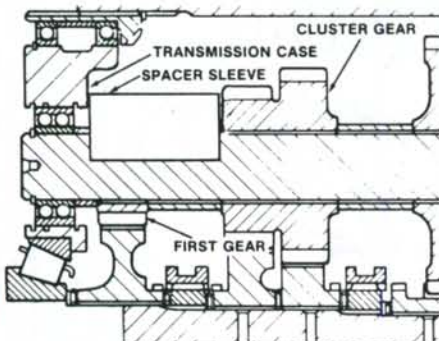

Fig. 103—Illustration showing installation of spacer sleeve on intermediate shaft for disassembly and assembly. Refer to text.
If intermediate shaft is equipped with a snap ring (26—Fig. 102) on rear end of shaft, proceed as follows: Refer to Fig. 103 and install spacer sleeve over first gear and between cluster gear and transmission case. Install end cap tool (Fig. 104) with a 0.125 inch (3.175 mm) shim pack on front end of intermediate shaft and tighten cap tool to 40 ft.-lbs. (54 N·m) torque. Install puller as shown in Fig. 104 and tighten nut against back side of puller plate until outer snap ring on front of bearing is tight against front of transmission, and end cap tool is tight against inner race of front bearing. Using a long punch, hit inner race of rear intermediate shaft bearing (29—Fig. 102) lightly until bearing is away from snap ring (26), then remove snap ring.
Install spacer sleeve into transmission over first gear and between cluster gear and transmission case as shown in Fig. 103. Install end cap tool with a 0.125 inch (3.175 mm) shim pack on front end of intermediate shaft and tighten cap to 40 ft.-lbs. (54 N·m) torque. Install puller assembly as shown in Fig. 104, tighten nut against back side of puller plate forcing intermediate shaft toward rear of transmission until outer snap ring on front bearing (5—Fig. 102) is tight against front of transmission and end cap tool is tight against inner race of front bearing.